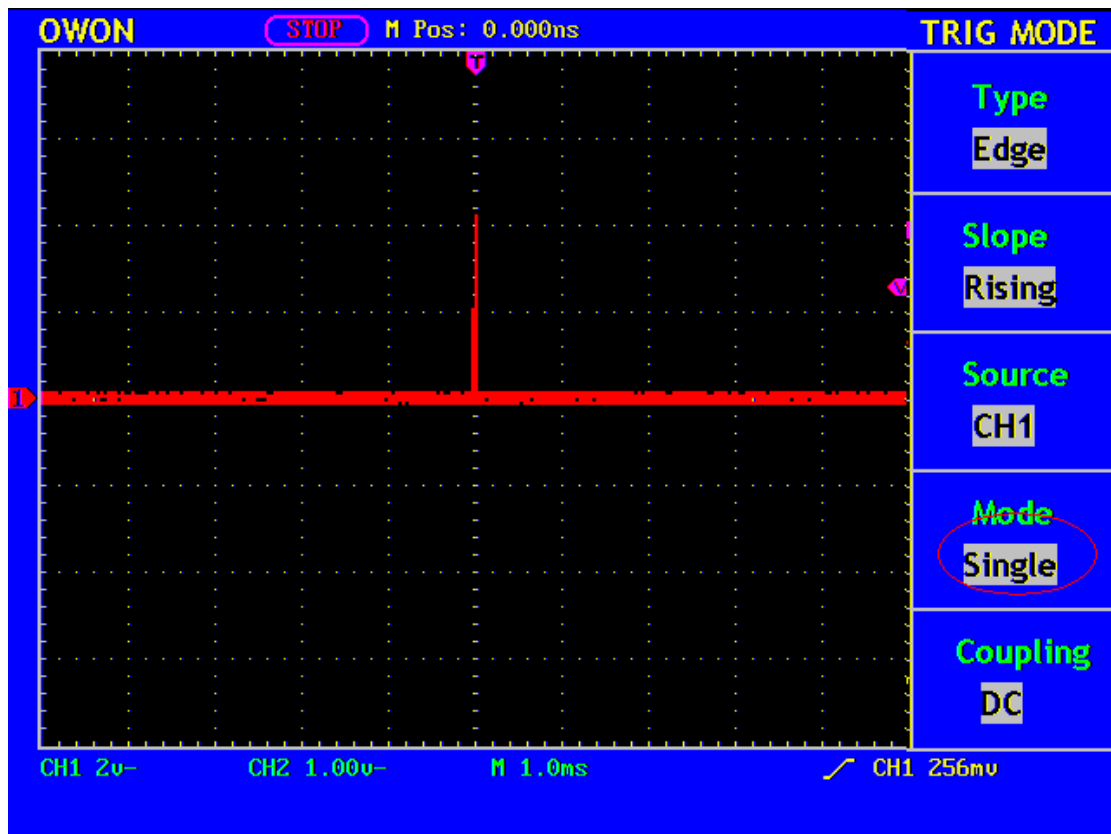

Fig. 92 Capture the Single Signal
10. If the **Trigger State Indicator** at the top of the screen does not indicate **Ready**, push down the **RUN/STOP** button and start **Acquire**, waiting the emergence of the signal in conformity with the trigger conditions. If a signal reaches to the set trigger level, one sampling will be made and then displayed in the screen. With this function, any random occurrence can be captured easily. Taking the burst burr of larger amplitude for example, set the trigger level to the value just greater than the normal signal level, and then presses the **RUN/STOP** button and waits. When there is a burr occurring, the instrument will trigger automatically and record the wave form generated during the period around the trigger time. With the **HORIZONTAL POSITION** knob in the horizontal control area in the panel rotated, you can change the horizontal position of the trigger position to obtain the negative delay, making an easy observation of the waveform before the burr occurs (see Fig. 92).